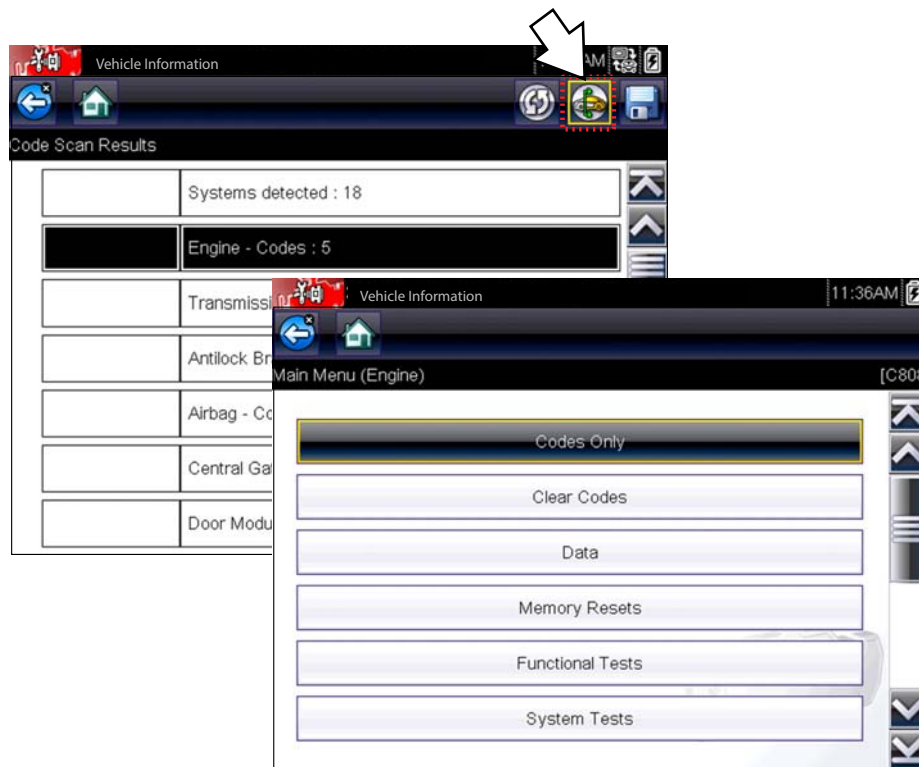

Figure 4-9 System icon (opens Main Menu)
- **A list of all the systems analyzed with DTCs totals.** A categorized system list with DTC totals is displayed in the order they are scanned. To view the main menu for a system in the list, select the system, then select the **System** icon (Figure 4-9).